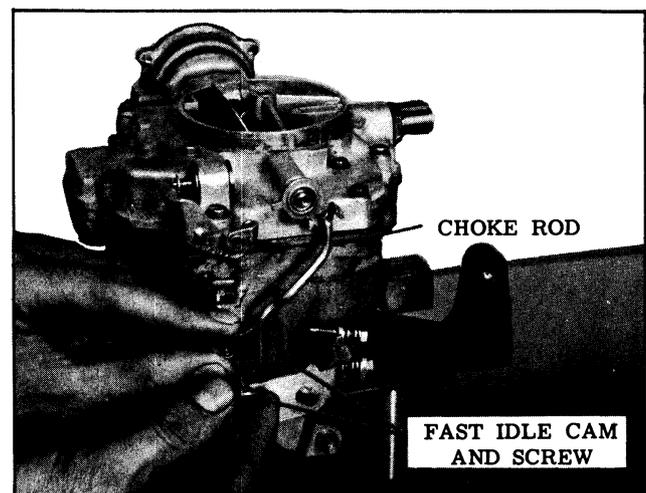

Fig. 8-139 Fast Idle Assembly
9. Install fast idle cam, choke rod and counterweight as an assembly with the counterweight tang facing outward. (See Fig. 8-139) Attach choke trip lever so that tang of trip lever is under tang of choke counterweight, and install retaining screw.